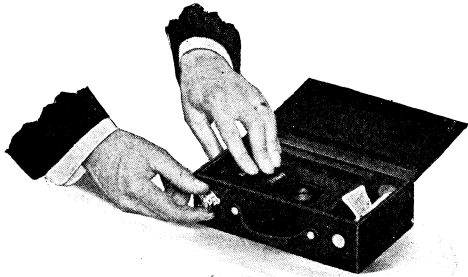
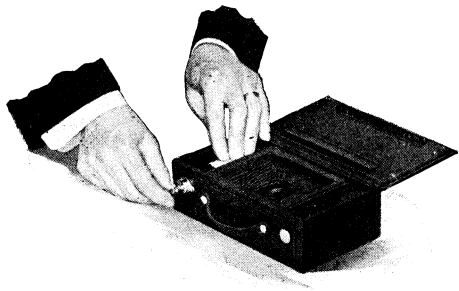

FIG. 1
FIG. 2
4. Holding the paper taut so as to wind tightly, turn the key until paper is all on reel. (Fig. 1 and Fig. 2.)
5. Insert film cartridge in spool carrier and close up the movable arm tight against end of spool. Have the duplex paper ("B" in Fig. 1) lead from the top.